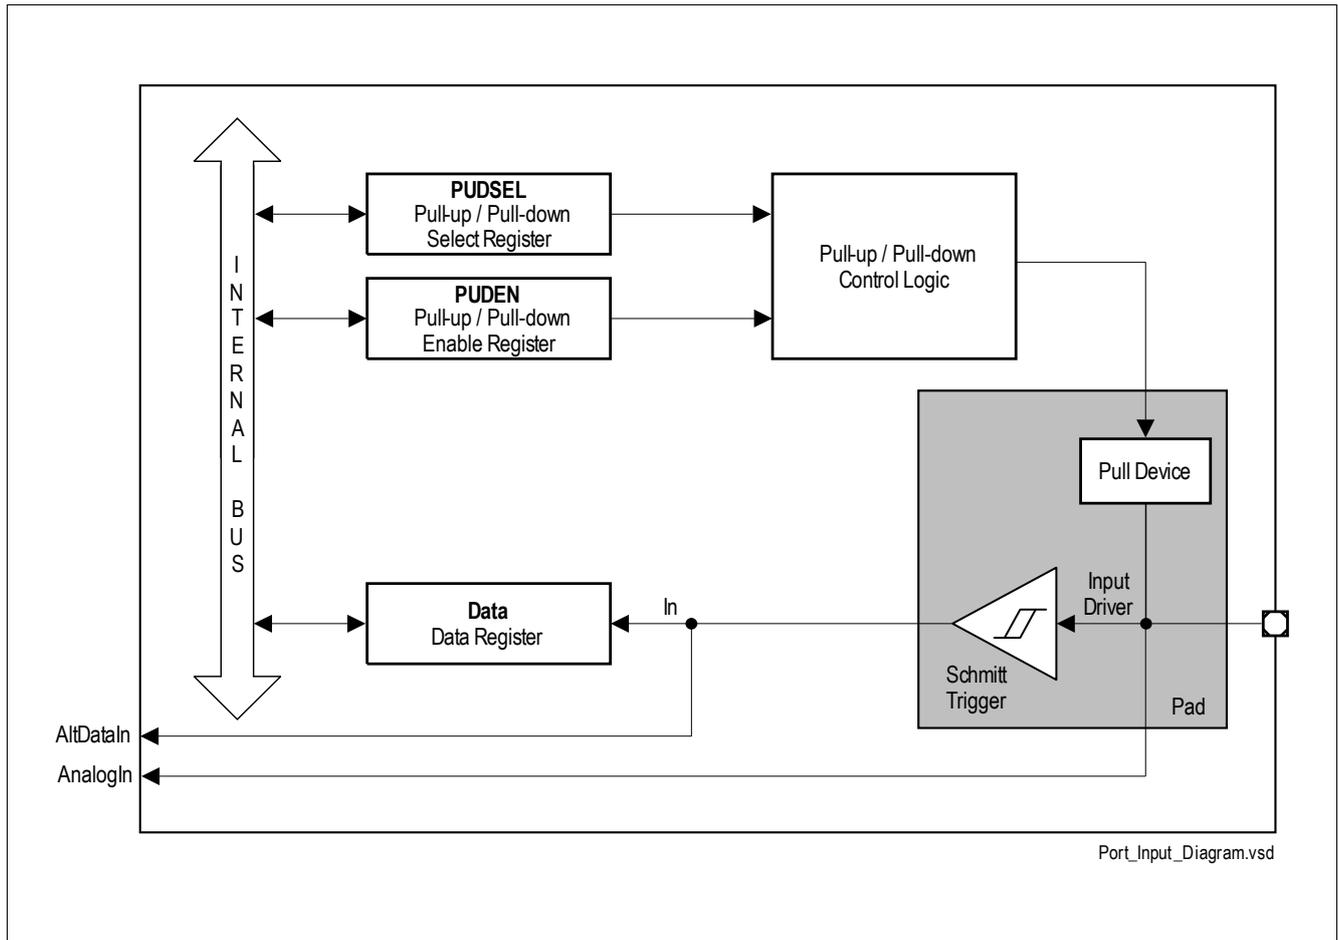

**Figure 20 General Structure of Bidirectional Port**
**Figure 20** shows the block diagram of an TLE9850QX bidirectional port pin. Each port pin is equipped with a number of control and data bits, thus enabling very flexible usage of the pin.